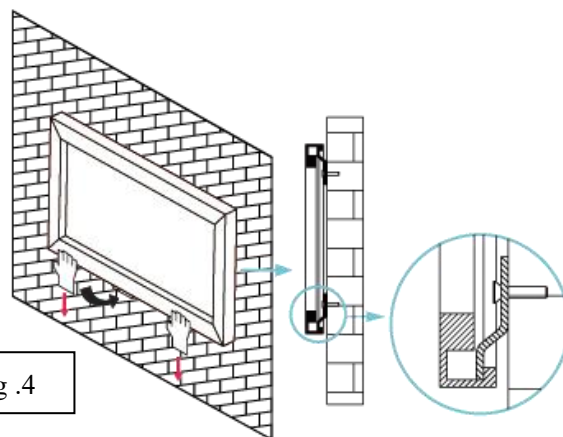

Fig. 4
6. Using both hands finish the installation by pushing the lower portion of the fixed frame screen into the lower bracket as shown in (Fig. 4).